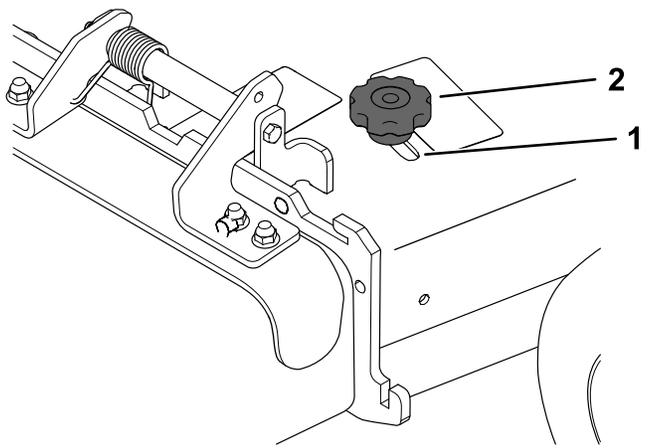

Figure 22
3. To adjust the baffle, loosen the knob (Figure 22).